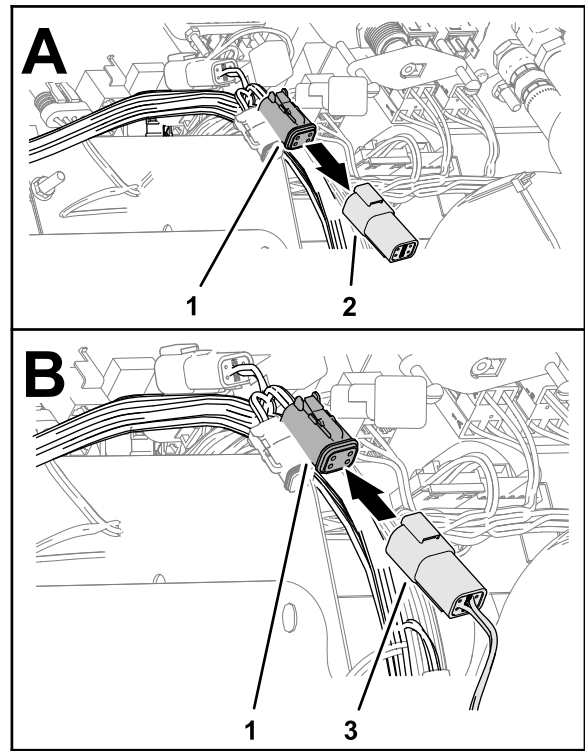

Figure 32
2. Remove the ISO bus terminator from the 4-socket connector of the GeoLink harness labeled CAN 1 ISOBUS TERMINATOR (Figure 32).
3. Plug the To ISOBUS connector of the ISO-CAN bus harness into the CAN 1 ISOBUS TERMINATOR connector of the GeoLink harness (Figure 32).